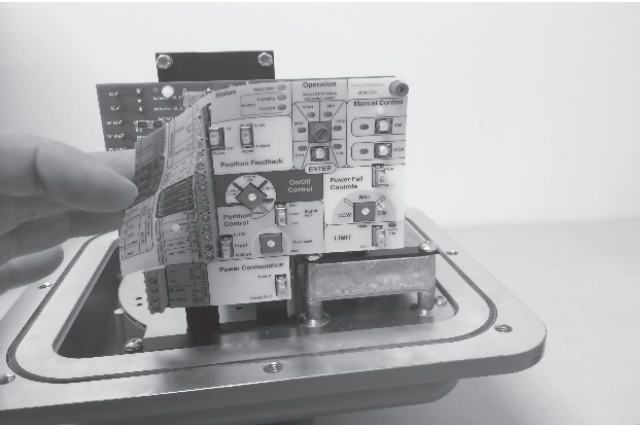

Figure 2.
- 4.4 Remove the overlay from the VCB00010 Circuit Board, see Figure 2.